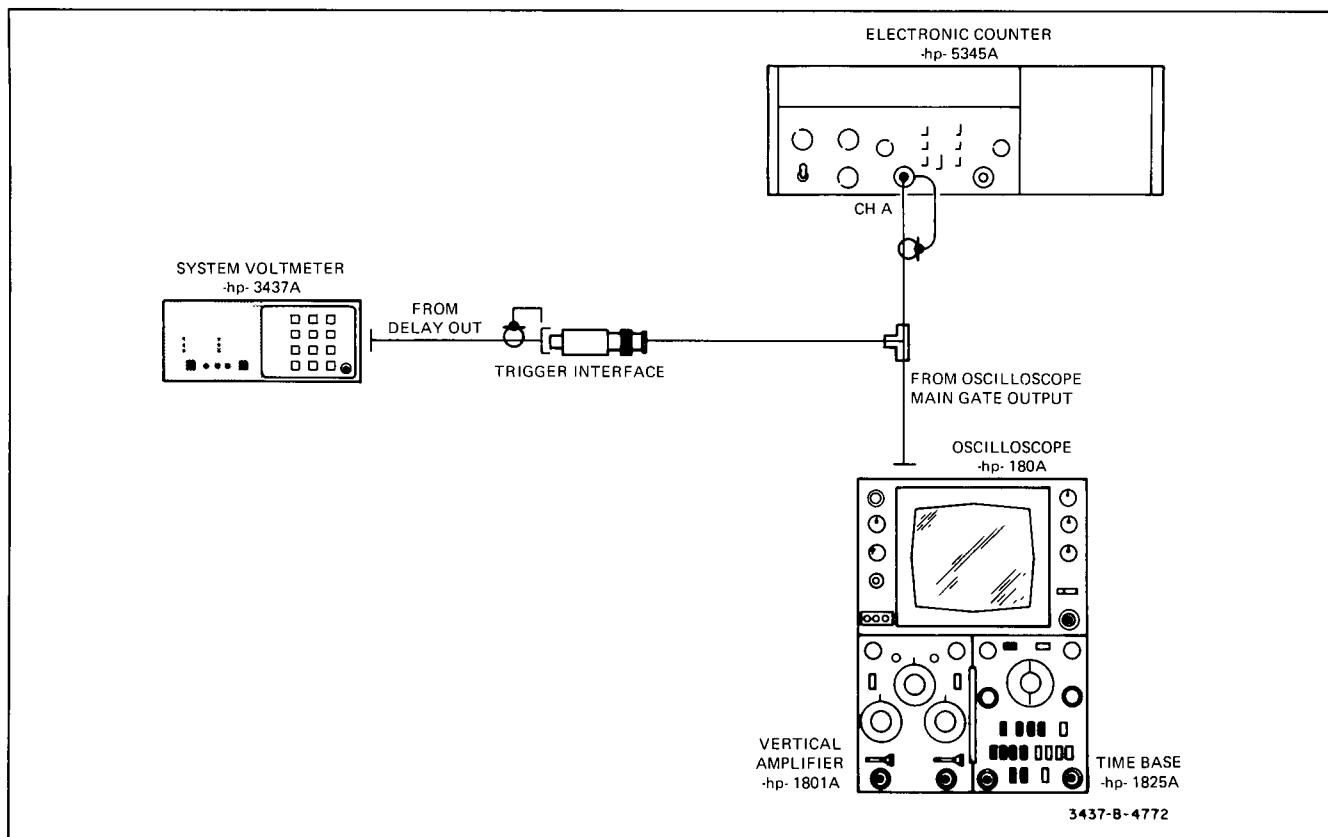

Figure 5-7. NRDGS Test Set-Up.
a. Connect the equipment as illustrated in Figure 5-7.